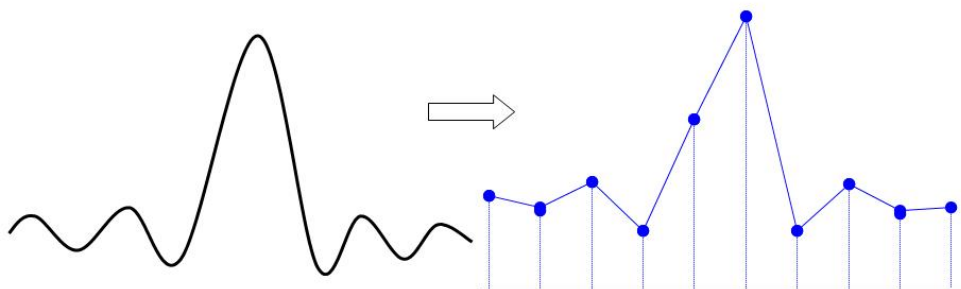

Figure 10-1
(2) Effect of Low Sampling Rate
- **Waveform Distortion:** Due to low sampling rate, the details of the waveform might be missing, the sampled waveform might have large different than the actual signal, as shown in Figure 10-1.